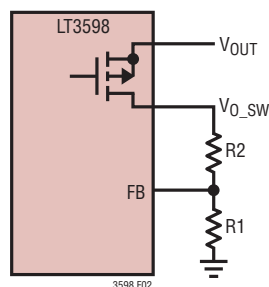

Figure 2. Overvoltage Protection Voltage Feedback Connections
**FB (Pin 11/Pin 14):** Feedback Pin for Overvoltage Protection. Reference voltage is 1.230V. Connect the resistive divider tap here. Minimize trace area at FB. Set  $V_{OUT}$  according to  $V_{OUT} = 1.230(1 + R2/R1)$  when overvoltage protection occurs (see Figure 2).
The LT3598 uses the FB pin to provide regulated overvoltage protection when all LED strings are open. A resistor divider is connected between the  $V_{O\_SW}$  pin and ground (Figure 2). There is an internal PMOS switch between  $V_{OUT}$  and  $V_{O\_SW}$ , which is controlled by the PWM signal. The PMOS switch addition prevents the feedback resistor divider from draining the output capacitor during PWM off-period, allowing for a higher dimming range without falsely tripping the OPENLED flag. It also reduces the system current in shutdown. This PMOS has about 1k resistance, so select FB resistors taking this resistance into account.
To set the maximum output voltage, select the values of R1 and R2 (see Figure 2) according to the following equation: